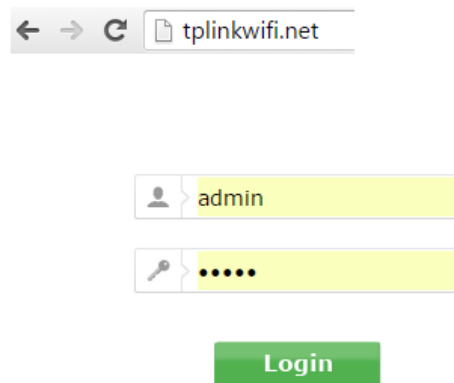

Figure 48: Logging In
2. On the same device, launch a Web browser, then type <http://tplinkwifi.net> in the address bar. (Figure 48)